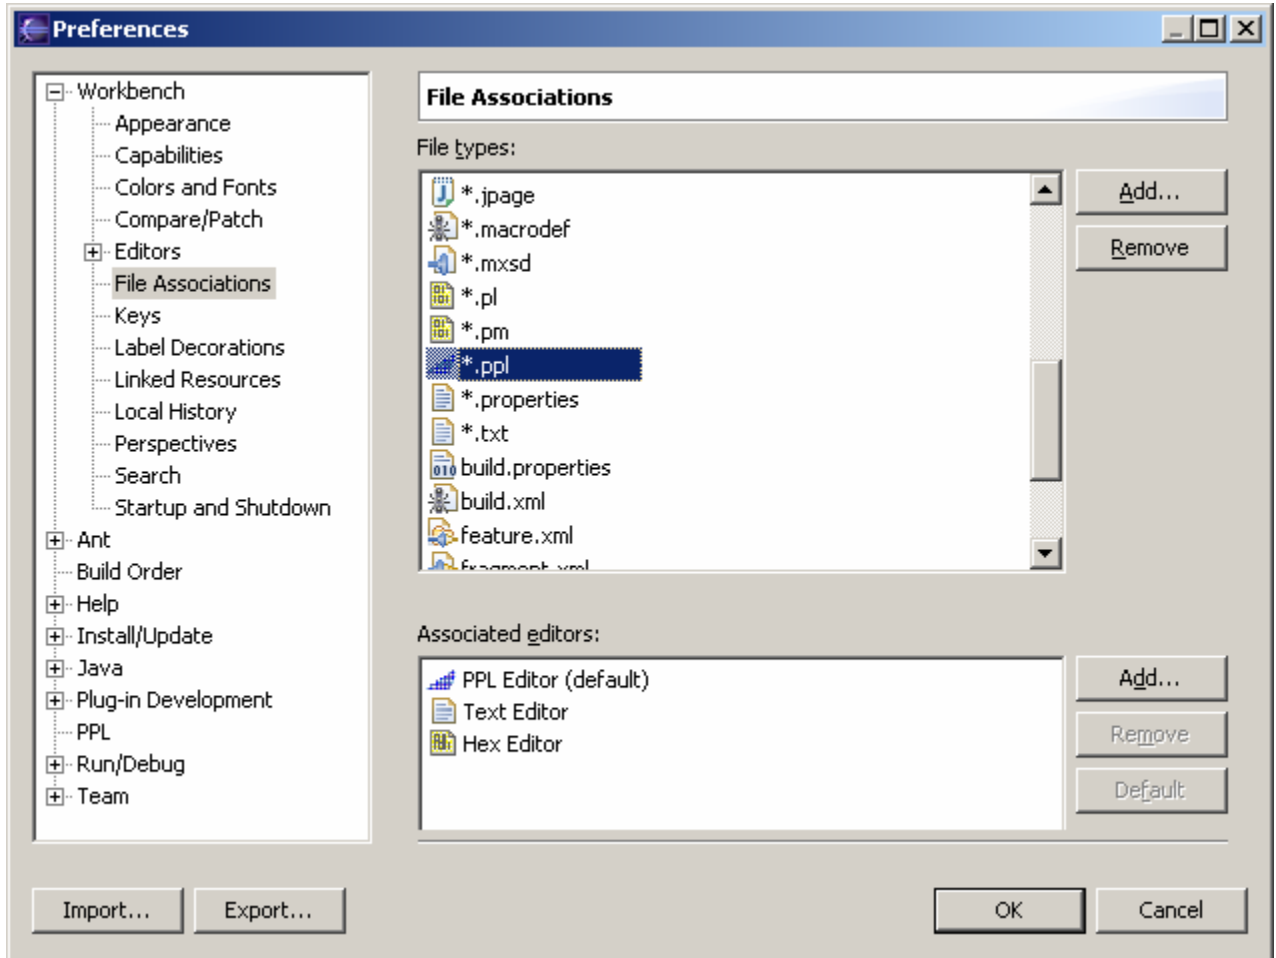

Figure 5. File Association Configuration
- Access the file associations page via **Window > Preferences > Workbench > File Associations ...** from the Eclipse Menu. See **Figure 5** below.